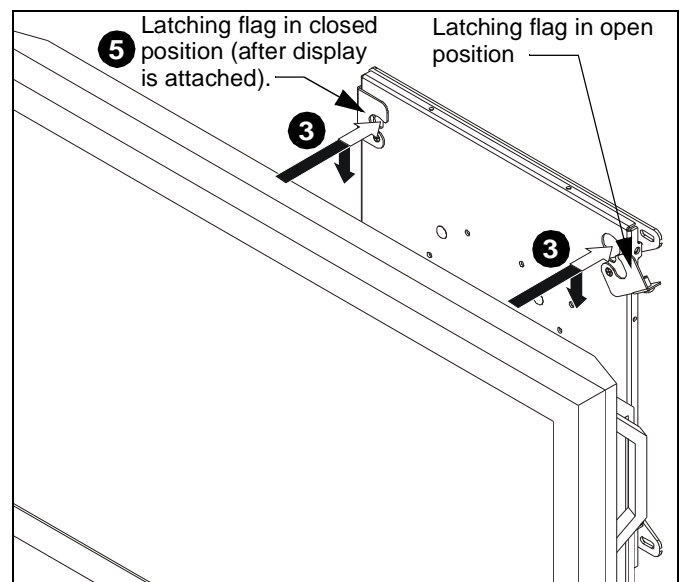

Figure 3
3. While supporting both sides of the display, align four mounting buttons on interface bracket or display with four mounting holes on MSP-JELPSW3. (See Figure 3)
5. Move latching flags to closed position around mounting buttons. (See Figure 3)